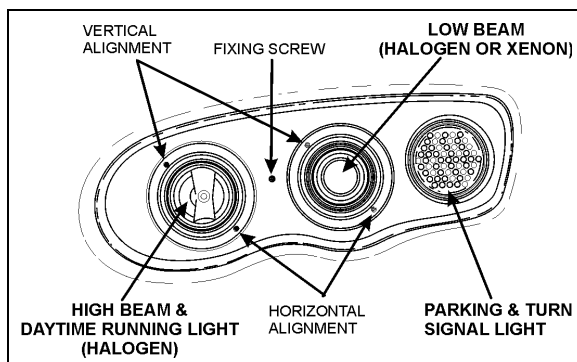

FIGURE 25: HEADLIGHT ASSEMBLY
Headlight aim should be checked after installing a new bulb. Aiming can be performed without opening headlight assembly. Horizontal and vertical aiming of each module is provided by two adjusting screws that pivot the module in the housing for proper alignment (Fig. 25). There is no adjustment for focus since the module is set for proper focus during manufacturing assembly.
2. Make sure that headlight assembly fixing screw is properly fastened (Fig. 25).
If beam is offset, a LOW CANDLES message will appear. Using vertical and horizontal alignment screws, adjust beam as needed (Fig. 25).